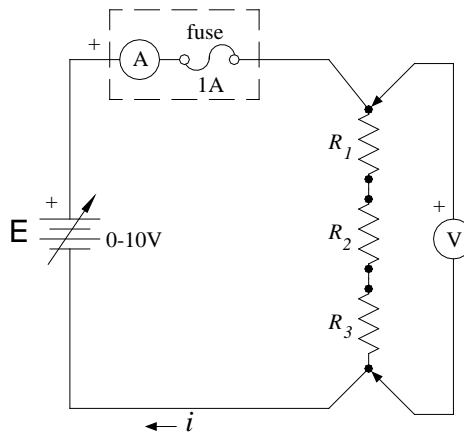

Figure 3 Schematic showing resistors wired in series.
7) Wire the resistors in series as in Figure 3 and again record the voltage and current. (Pick the scales on your meters to get the highest possible precision.) Use your measurements to find the equivalent resistance. Calculate the total theoretical resistance of the resistors in series using the experimental values that you measured previously. Remember that for series resistors: